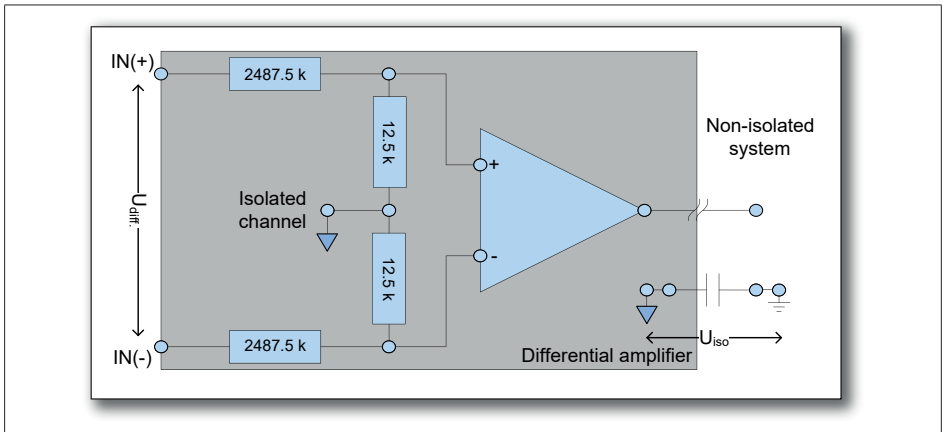

Fig. 13.18 Isolated balanced input channel
The high voltage signal input channels of the GN310B/GN311B are of the balanced type. This means that both inputs within one channel pair are exactly the same. The only difference is an opposite polarity or sign. A (simplified) schematic representation of the input channel can be found below (see Fig. 13.18)
- The isolated ground is not externally accessible, as shown in Fig. 13.18.